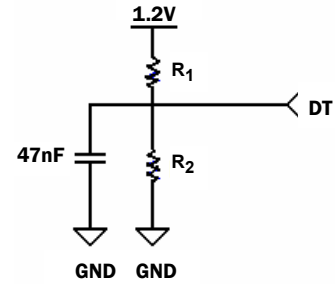
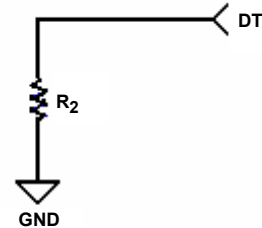

FIGURE 33A.
FIGURE 33B.
The QLx4600-SL30 is capable of maintaining periods of line silence on any of its four channels by monitoring each channel for loss of signal (LOS) conditions and subsequently muting the outputs of a respective channel when such a condition is detected. A reference current applied to the detection threshold (DT) pin is used to set the LOS threshold of the internal signal detection circuitry. Current control on the DT pin is done via one or two external resistors. Nominally, both a pull-up and pull-down resistor are tied to the DT pin (Figure 33A), but if adequate control of the supply voltage is maintained to within  $\pm 3\%$  of 1.2V, then a simple pull-down resistor is adequate (as in Figure 33B). Resistors used should be at least  $1/16W$ , with  $\pm 1\%$  precision.
The internal bias point of the DT pin, nominally 1.05V, is used in conjunction with the voltage divider ( $R_1$  and  $R_2$ ) shown in Figure 33A to set the reference current on the DT pin.
For channels exhibiting more than 25dB of total loss (this includes cable or FR-4 loss) the DT pin should be configured for a reference sink current (coming out of the DT pin) of approximately  $2\mu A$ . A typical configuration for a  $2\mu A$  sink current is given in Figure 33C. If the configuration in Figure 33B is utilized, a  $525k\Omega$  resistor would be used.